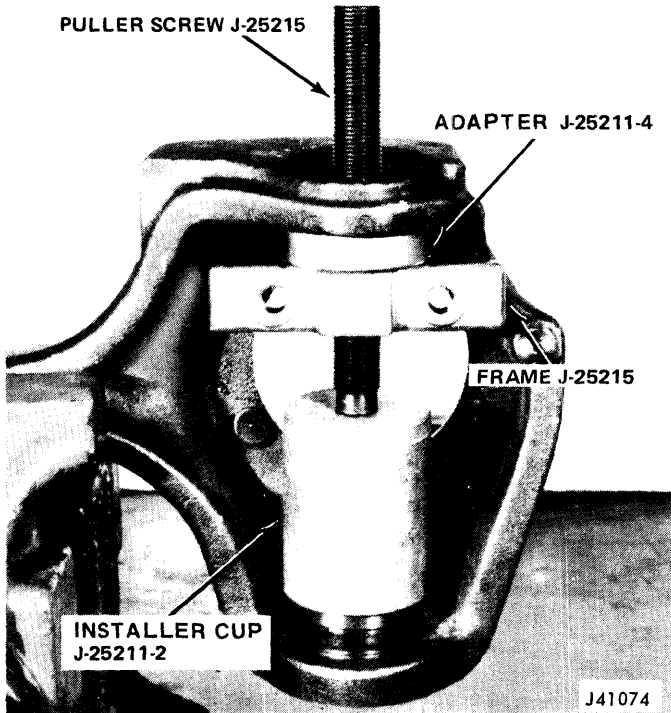

Fig. 10-9 Lower Ball Stud Installation
- (5) Invert knuckle in vise. Position lower ball stud in knuckle. Use Installer Cup J-25211-2, Adapter J-25211-4, and Puller J-25215 screw and nut (fig. 10-9) to press in the lower stud. Install ball stud snap ring.